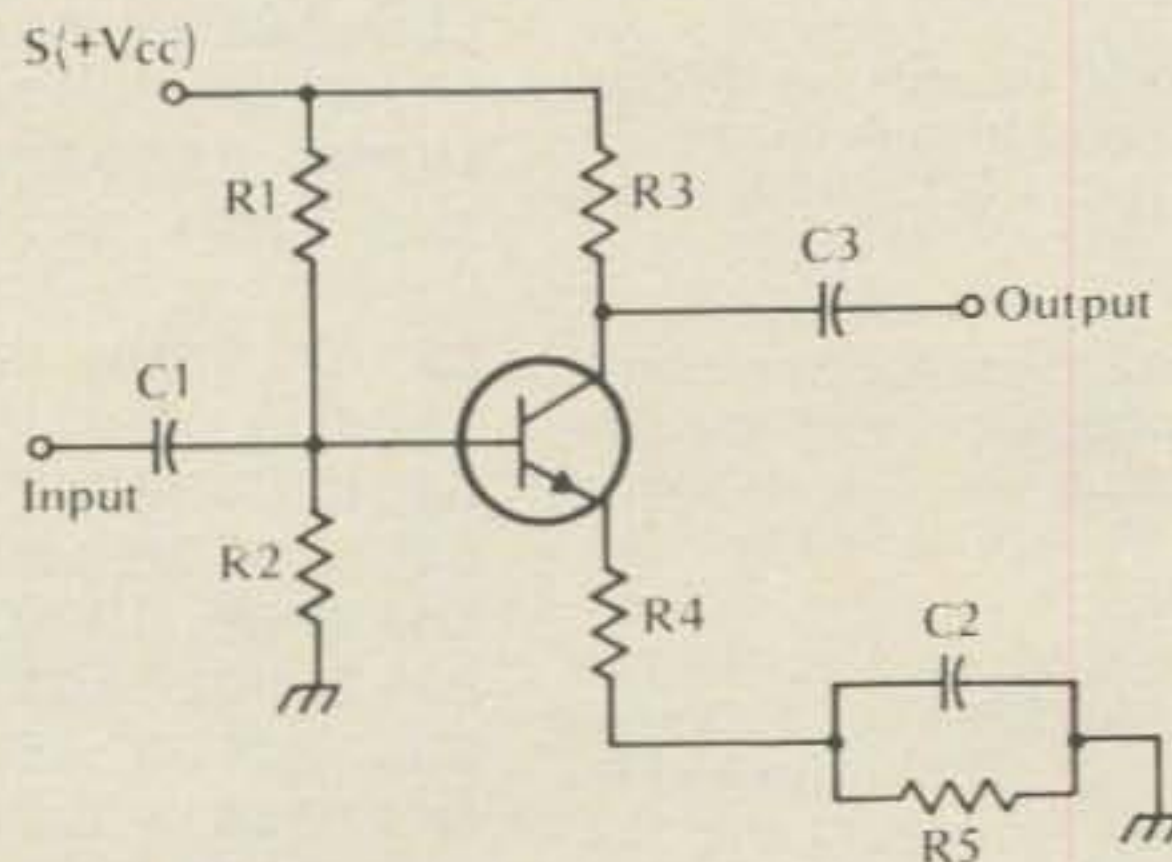

Figure 1: schematic diagram of amplifier
The transistor amplifier circuit of figure 1 is perhaps the most common circuit configuration. It is an NPN transistor used in the common-emitter circuit to provide gain in audio and other low-frequency applications. Depending on the values of the resistors and capacitors used, it can provide gain in the range of five or less up to a hundred or more. It can operate at supply voltages from a few volts up to a hundred volts (with suitable transistors), at currents ranging from a fraction of a milliampere up to several tens of ma.
- $R_1$  = top base bias resistor (see figure 1)